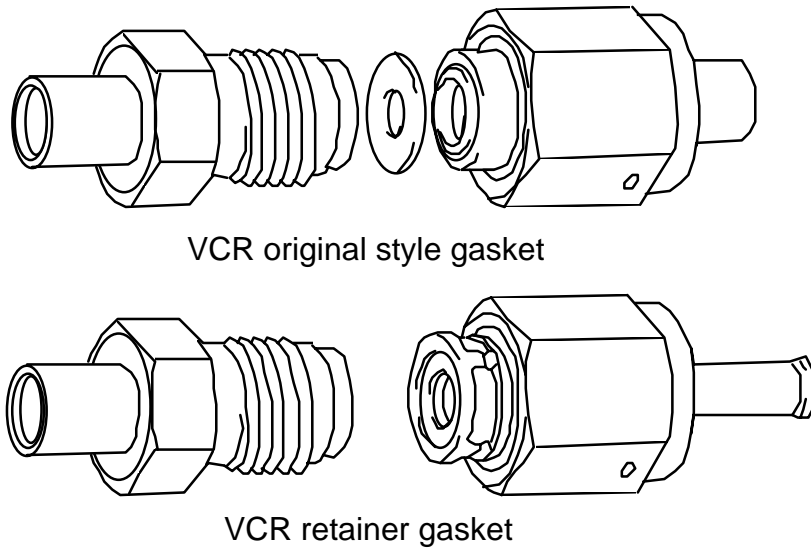

Figure 2-2 VCR compatible couplings
The AFC80.MD - AFC90.MD mass flow controller are normally supplied with 1/4" male VCR compatible couplings on both sides. To install the AFC, follow the steps listed below. Refer to figure 2-2.
- b) For VCR retainer gaskets, snap the gasket onto the male coupling. See figure 2-2.